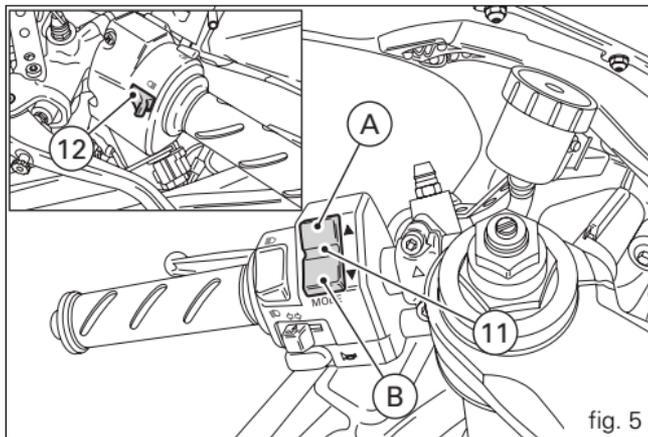

fig. 5
12) **High beam headlight FLASH button** (fig. 5).